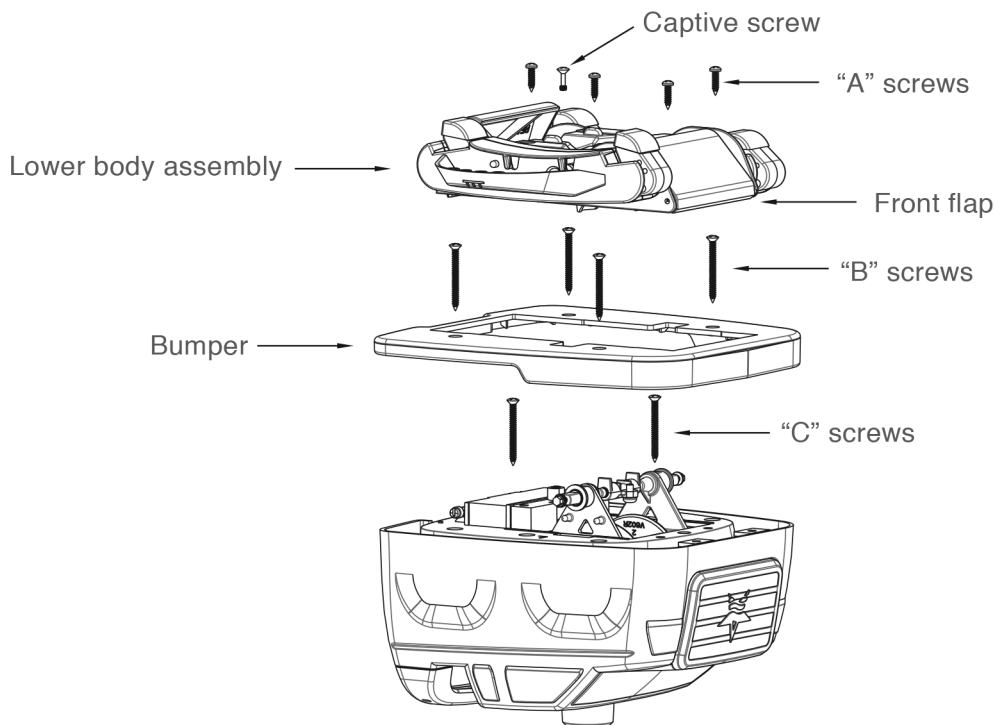

Fig. 18
6. Remove four “B” screws (see Fig. 18).